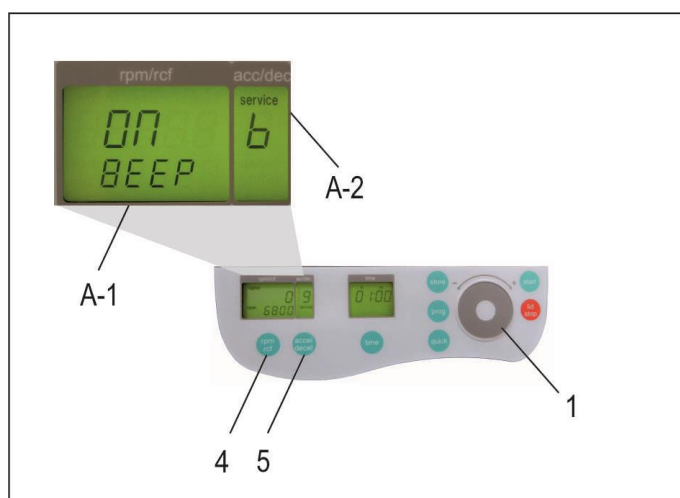

Figure 10
Proceed as illustrated, under point 3.2, to enter this program mode, press the key, "accel/decel" (5). In the display; "accel/decel" (A-2) flashes the word, "service". Select the letter, "b" with the control field (1). As a result, appearing in the display, "rpm/rcf" (A-1), the word "ON/BEEP". By pressing the key, "rpm/rcf" (4), the keyboard sound (On) or (Off) can be turned on, with the adjustable knob (1), (see Figure 10).